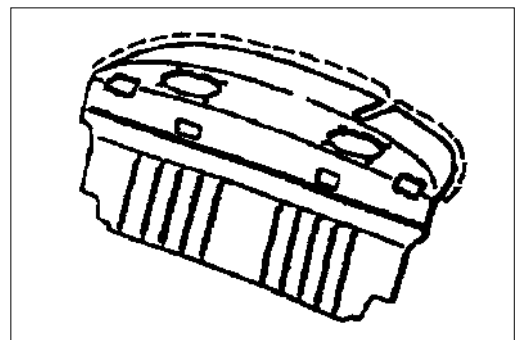

Figure 20
- Install a length of felt material, part number, 993 555 545 00 onto the edge of the rear wall trim panel (Figure 20). As of October 12, '95 vehicles with leather covered rear wall trim panels have the felt strip installed in production.